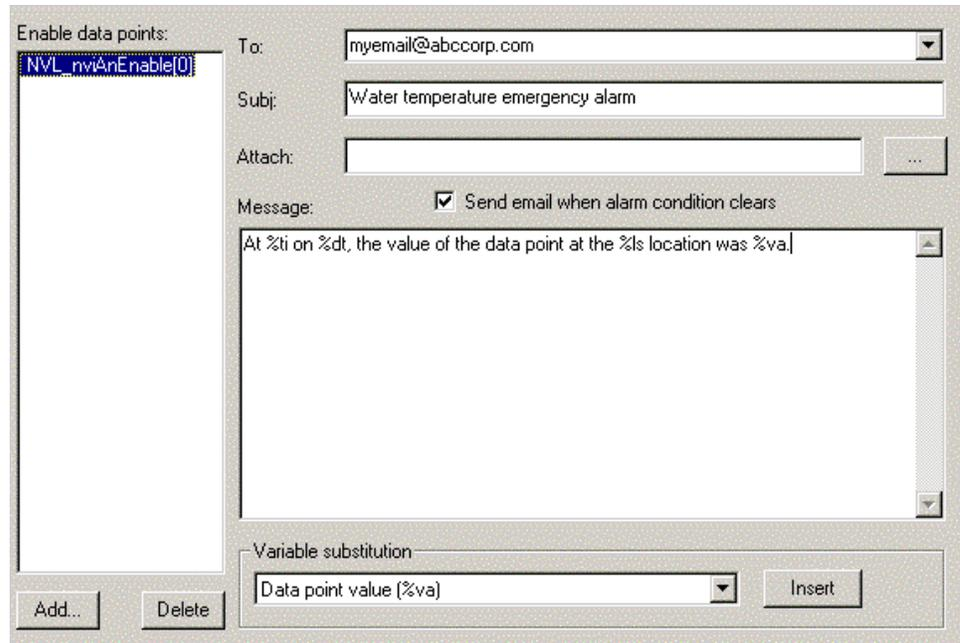

Figure 4.10 Email Tab
9. Select the **NVL_nviAnEnable** data point and set the **To**, **Subj**, and **Message** fields as shown in Figure 4.10.